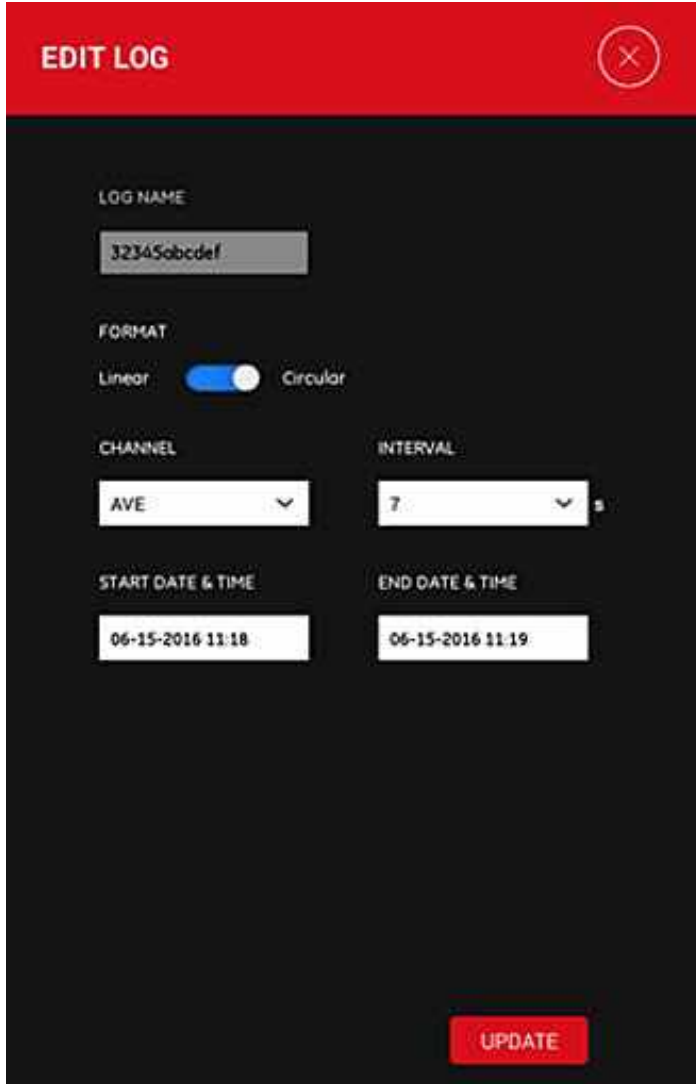

Figure 116: The EDIT LOG menu
3. Click the *edit* button to open the *edit log* menu shown in Figure 116 below.